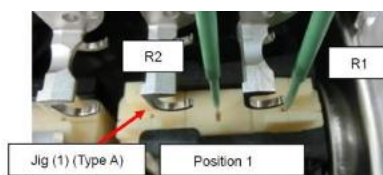

Figure 3.4 Outer R. pack (Reagent) adjustment position
- Move both RS Probes down to **Jig Type A**. (Figure 3.4)